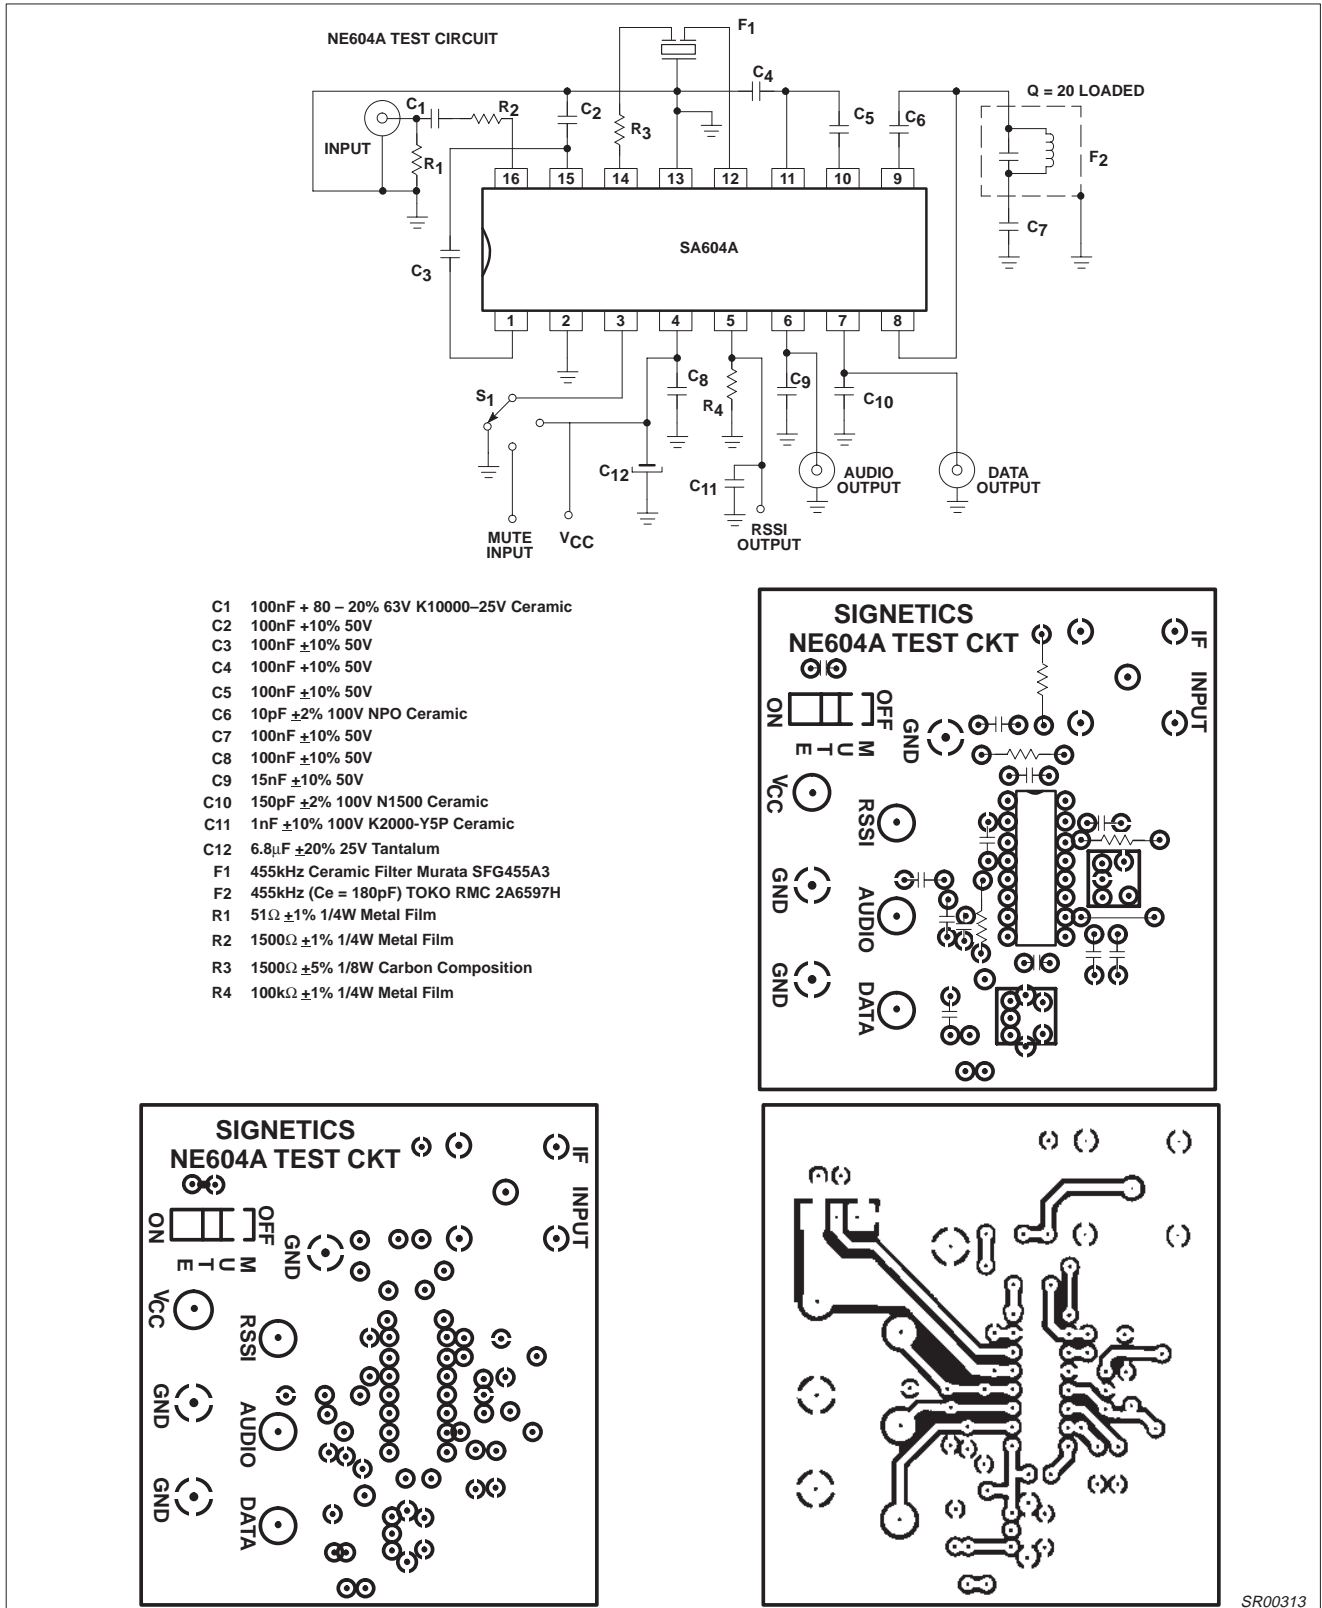
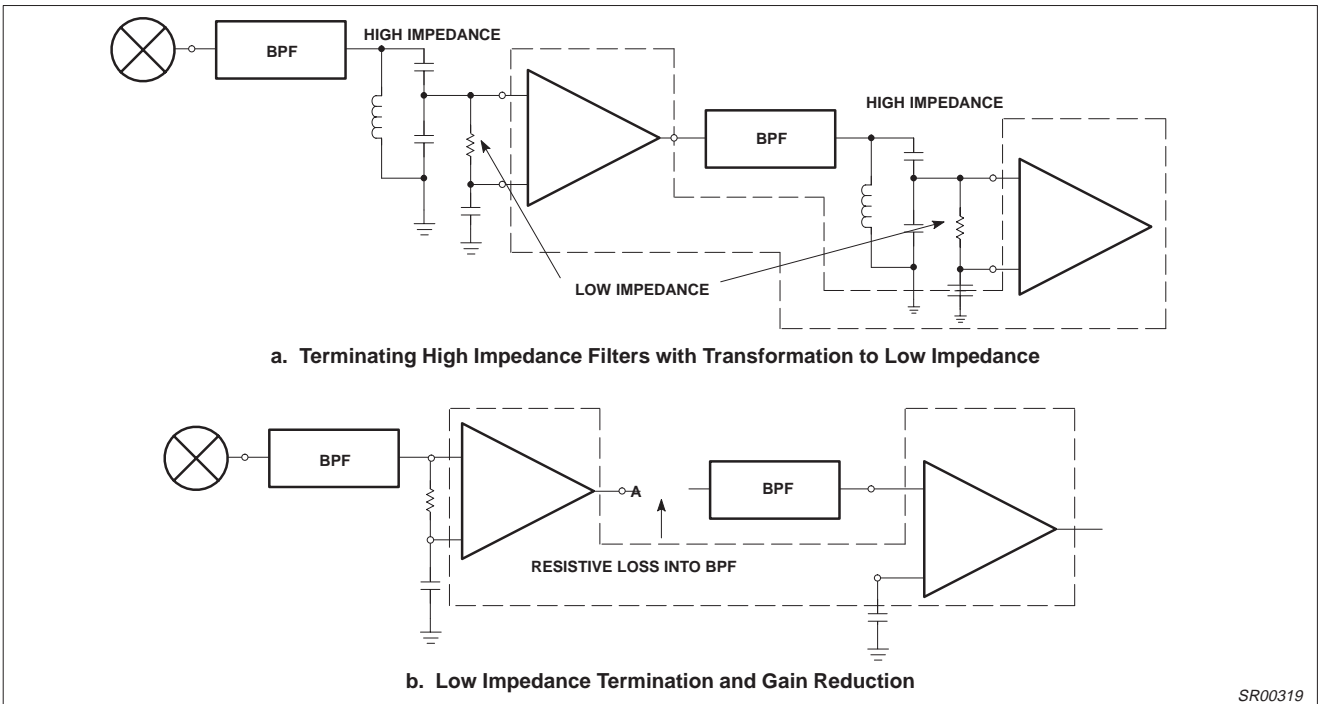

Figure 3. SA604A Test Circuit
Figure 9. Practical Termination
Typical reading at  $T_A = 25^\circ\text{C}$ ;  $V_{CC} = \pm 6\text{V}$ , unless otherwise stated. IF frequency = 455kHz; IF level = -47dBm; FM modulation = 1kHz with  $\pm 8\text{kHz}$  peak deviation. Audio output with C-message weighted filter and de-emphasis capacitor. Test circuit Figure 3. The parameters listed below are tested using automatic test equipment to assure consistent electrical characteristics. The limits do not represent the ultimate performance limits of the device. Use of an optimized RF layout will improve many of the listed parameters.
The SA604A is a very high gain, high frequency device. Correct operation is not possible if good RF layout and gain stage practices are not used. The SA604A cannot be evaluated independent of circuit, components, and board layout. A physical layout which correlates to the electrical limits is shown in Figure 3. This configuration can be used as the basis for production layout.
There are three primary ways to deal with regeneration: (1) Minimize the feedback by gain stage isolation, (2) lower the stage input impedances, thus increasing the feedback attenuation factor, and (3) reduce the gain. Gain reduction can effectively be accomplished by adding attenuation between stages. This can also lower the input impedance if well planned. Examples of impedance/gain adjustment are shown in Figure 9. Reduced gain will result in reduced limiting sensitivity.
The high gain and bandwidth of the SA604A in combination with its very low currents permit circuit implementation with superior performance. However, stability must be maintained and, to do that, every possible feedback mechanism must be addressed. These mechanisms are: 1) Supply lines and ground, 2) stray layout inductances and capacitances, 3) radiated fields, and 4) phase shift. As the system IF increases, so must the attention to fields and strays. However, ground and supply loops cannot be overlooked, especially at lower frequencies. Even at 455kHz, using the test layout in Figure 3, instability will occur if the supply line is not decoupled with two high quality RF capacitors, a 0.1μF monolithic right at the  $V_{CC}$  pin, and a 6.8μF tantalum on the supply line. An electrolytic is not an adequate substitute. At 10.7MHz, a 1μF tantalum has proven acceptable with this layout. Every layout must be evaluated on its own merit, but don't underestimate the importance of good supply bypass.
At 455kHz, if the layout of Figure 3 or one substantially similar is used, it is possible to directly connect ceramic filters to the input and between limiter stages with no special consideration. At frequencies above 2MHz, some input impedance reduction is usually necessary. Figure 9 demonstrates a practical means.